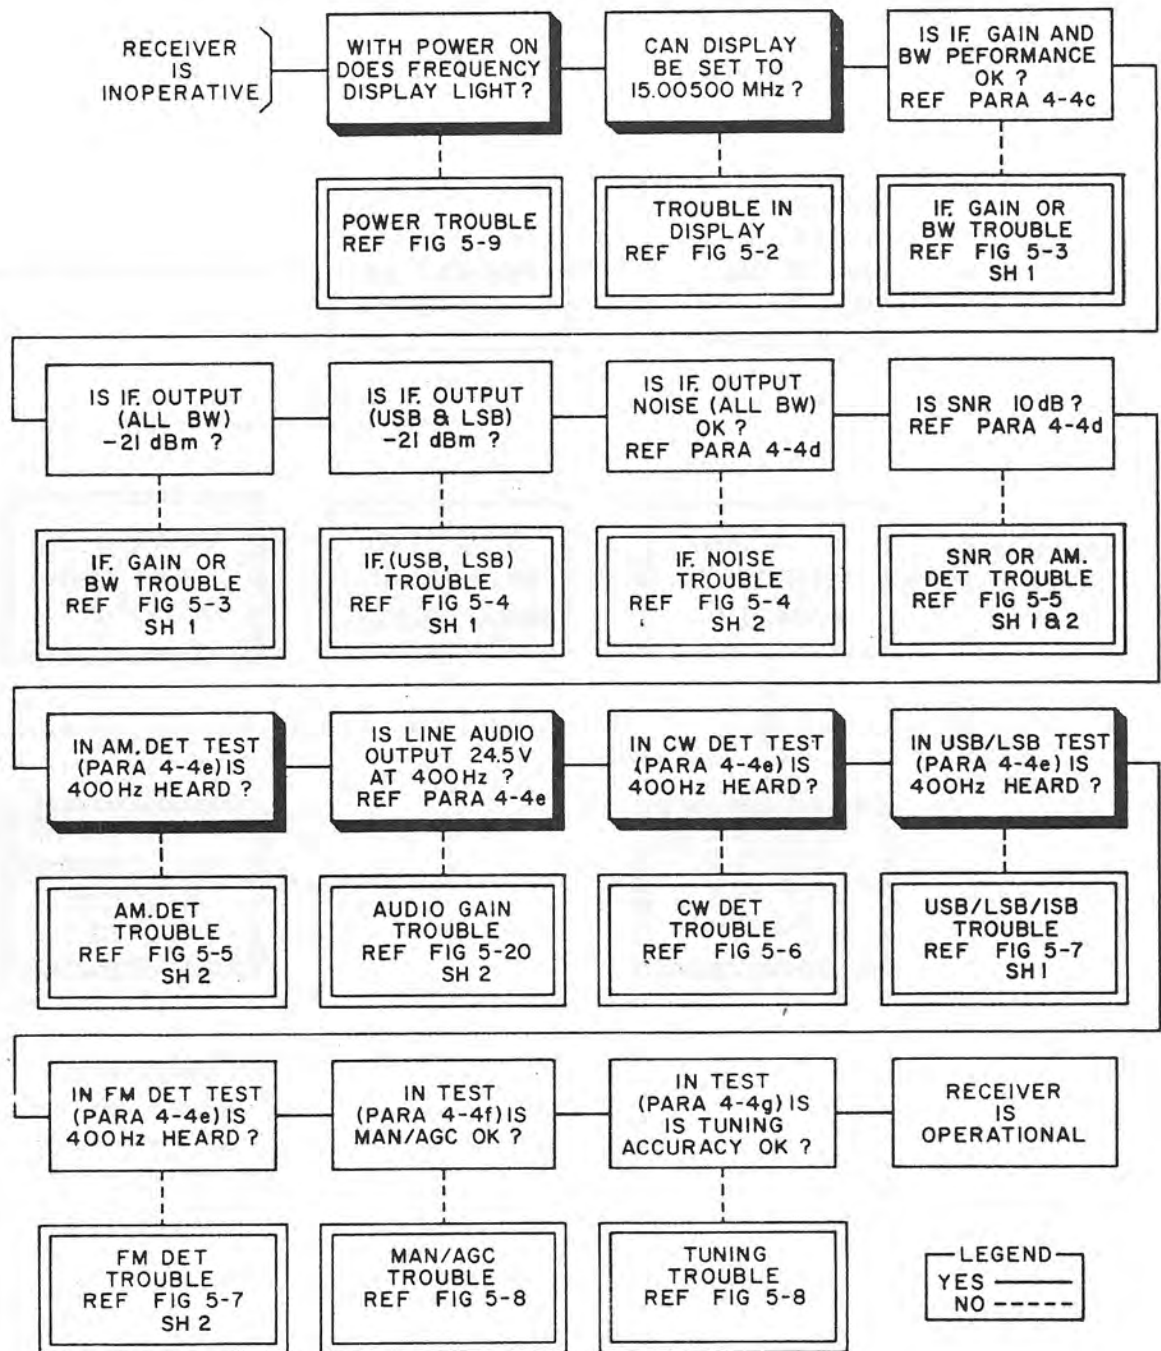

Figure 5-1. Receiver Overall Troubleshooting Fault Logic Diagram
a. Troubleshooting Sequence. The isolation and repair of the receiver can be done in a rapid and accurate manner by following the step-by-step procedures in the following paragraphs (1) through (6).
- (1) Perform maintenance turn-on procedure (table 5-3).
- (2) Perform receiver overall troubleshooting procedures (figure 5-1) to isolate fault to a functional area.
Figure 5-1 is the receiver overall troubleshooting fault logic diagram. This gives the sequence for performing the performance tests detailed in chapter 4. When a fault is detected during this sequence (in a functional area), this diagram indicates the next fault logic diagram to follow to continue troubleshooting. The troubleshooting index, in table 5-1, also indicates the next logic diagram to follow for a fault in a particular functional area. Table 5-1 also indicates the location of pertinent functional descriptions and alignment/adjustment procedures for these areas.